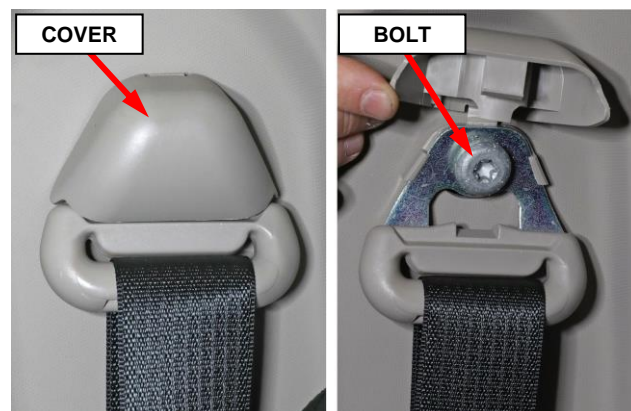

Figure 26 – Seat Belt Turning Loop
13. On the C-pillar, lift the seat belt turning loop cover then remove the turning loop bolt (Figure 26).